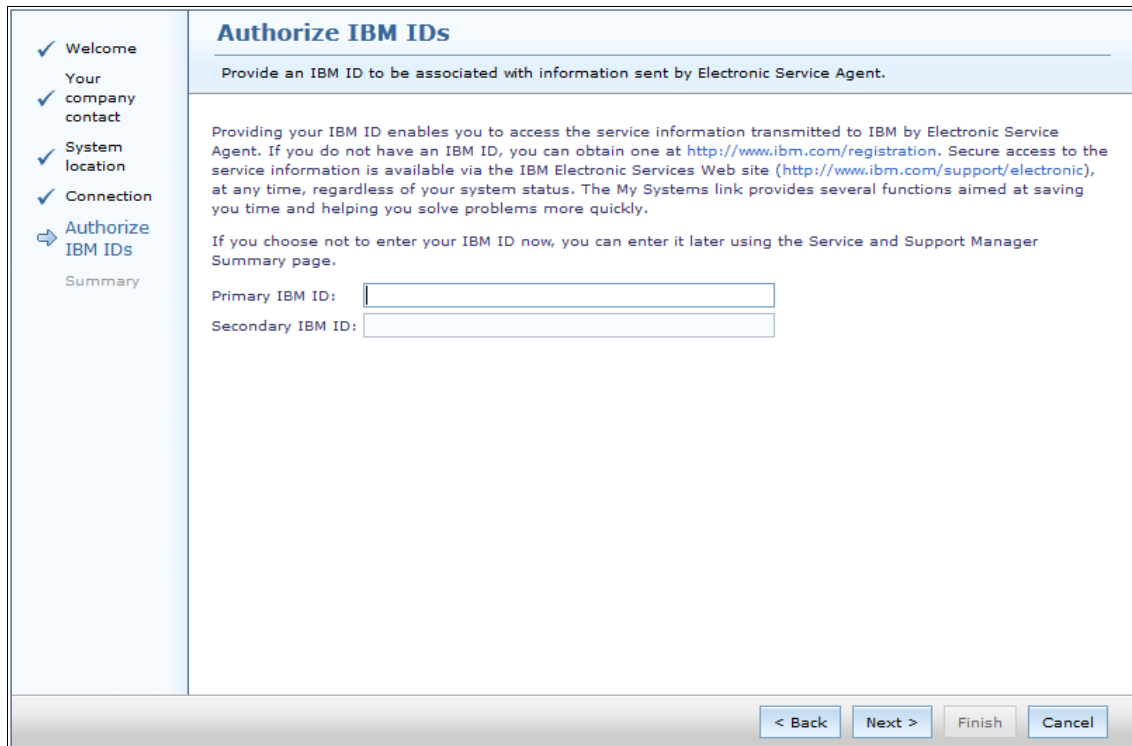

Figure 7-80 Getting started with ESA wizard Authorized IDs window
- When the test returns successfully, click **Next** to continue to the Authorized IBM IDs window, as shown in Figure 7-80.